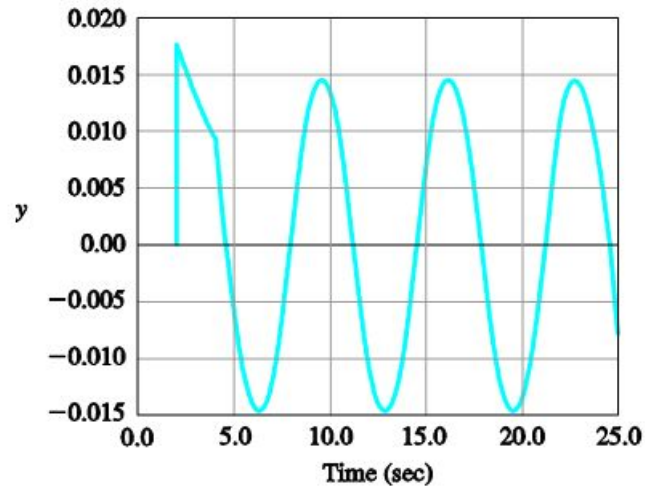

Figure 4.44: Unit impulse response for paper-machine in Problem 33
- The system becomes marginally stable for a proportional gain of $K_u = 3.044$ as shown by the unit impulse response in Fig. 4.44. Find the optimal PID-controller parameters according to the Zeigler–Nichols tuning rules.